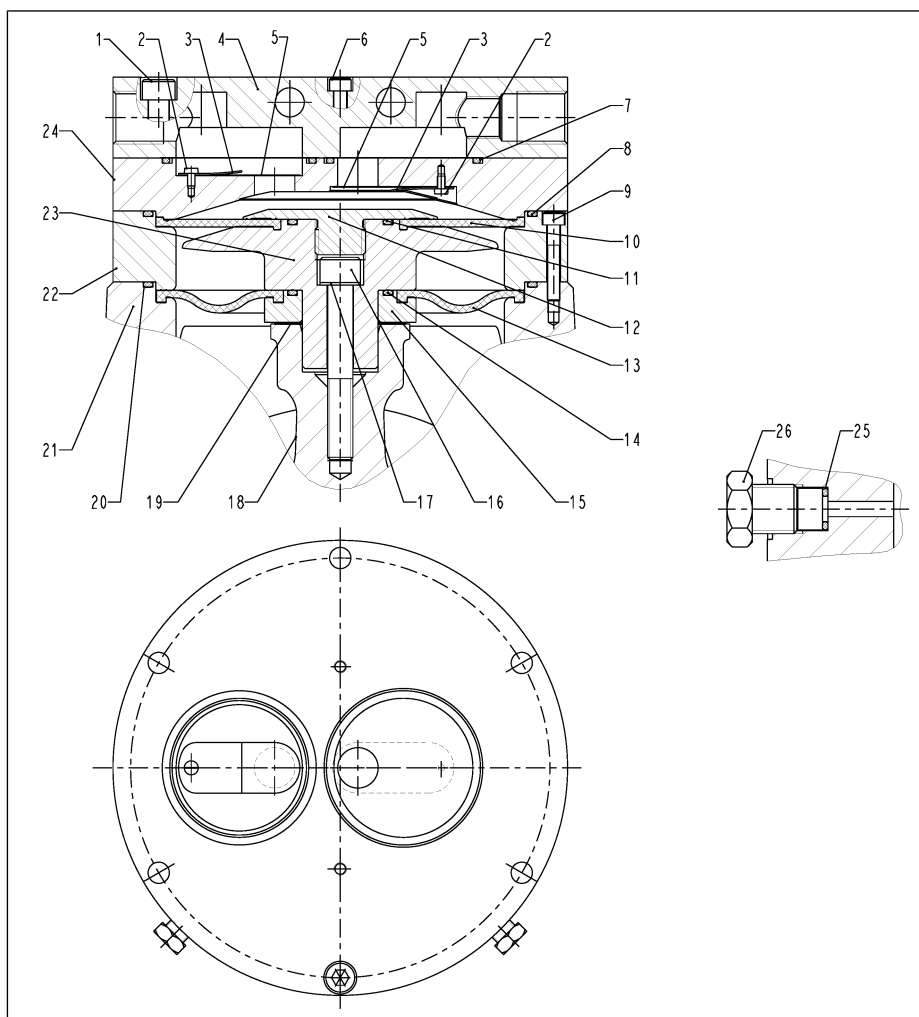

Fig. 11 Individual parts of the pump head
** According to Fig. 11
i The following item numbers refer to Fig. 11.